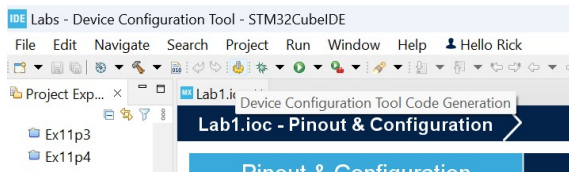

Figure 3: Device Configuration Tool Code Creation
1. Click the yellow gear icon in the center of the task bar, shown in figure 3.